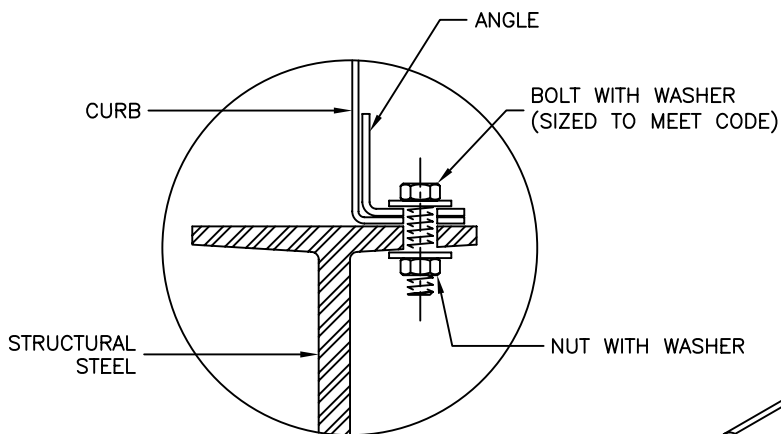

Figure 1-1
- be tightened according to manufacturer's torque specifications. (Figure 1-1)